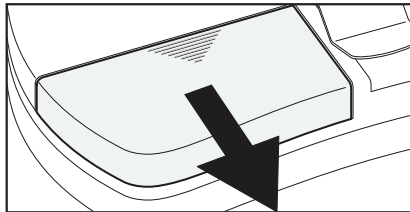

FIG. 1
1. To open case, gently push straight out on battery cover lock tab as shown, **Fig. 1**.